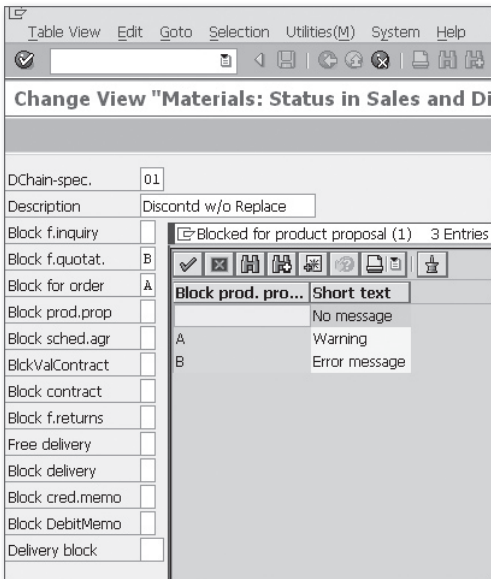

Figure 2.22 List of Sales Activities for Which a Material Can Be Blocked
This takes you to the screen shown in Figure 2.22, with the message "Specify target entries."
4. Assign a status to each of the processes shown in Figure 2.22.